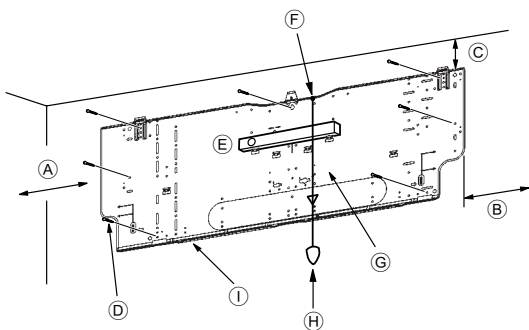
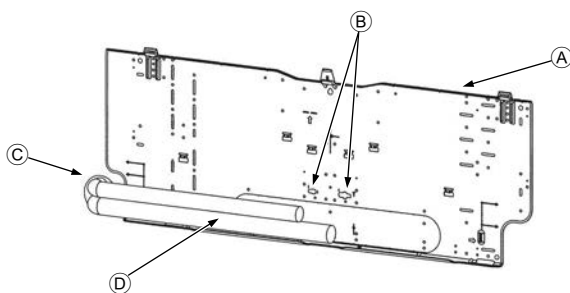

Fig. 3-4
Fig. 3-5
■ PKA-RP60, 71, 100KAL (Fig. 3-4)
- Ⓓ Fixing screws (4 x 25) ②
- Ⓘ Mount board ①
3.3. When embedding pipes into the wall (Fig. 3-5)
- Ⓐ Mount board ①